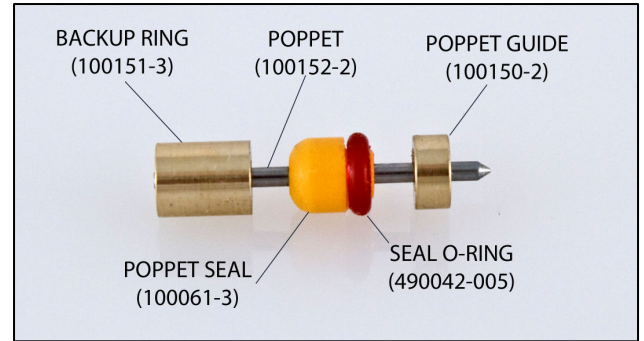

Figure 4
10. Apply a light coat of Food Grade Lube (400034-2) to the red Seal O-Ring (490042-005) and slide over the Poppet Seal (100061-3) groove. **See Figure 4**
11. Apply a light coat of Food Grade Lube to the shaft of the Poppet (100152-2). **See Figure 4**
12. Slide Poppet Seal (with O-Ring installed) half way down the shaft of the Poppet with the Seal O-Ring facing tip of Poppet. **See Figure 4**